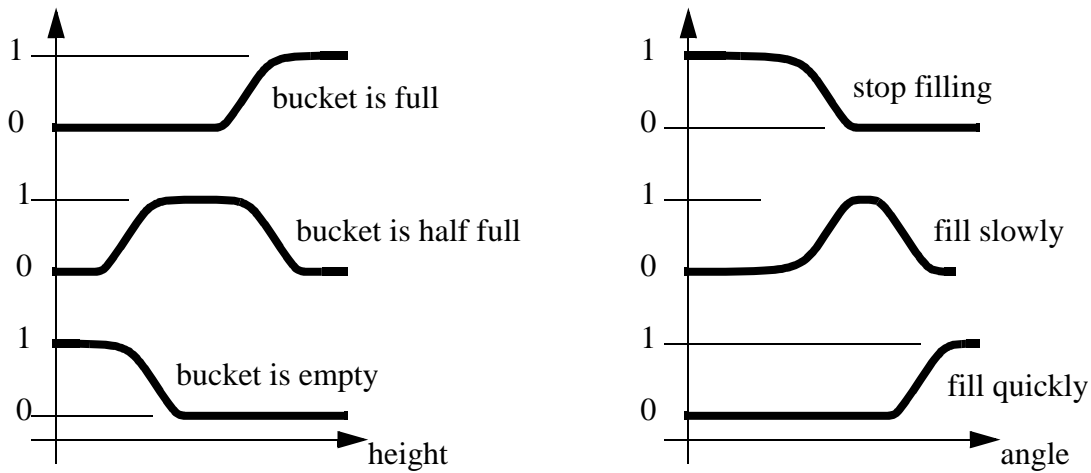

Figure 28.2 Fuzzy Sets
The outstanding question is "What does it mean when the bucket is empty, half full, or full?" And, what is meant by filling the bucket slowly or quickly. We can define sets that indicate when something is true (1), false (0), or a bit of both (0-1), as shown in Figure 28.2. Consider the *bucket is full* set. When the height is 0, the set membership is 0, so nobody would think the bucket is full. As the height increases more people think the bucket is full until they all think it is full. There is no definite line stating that the bucket is full. The other bucket states have similar functions. Notice that the *angle* function relates the valve angle to the fill rate. The sets are shifted to the right. In reality this would probably mean that the valve would have to be turned a large angle before flow begins, but after that it increases quickly.